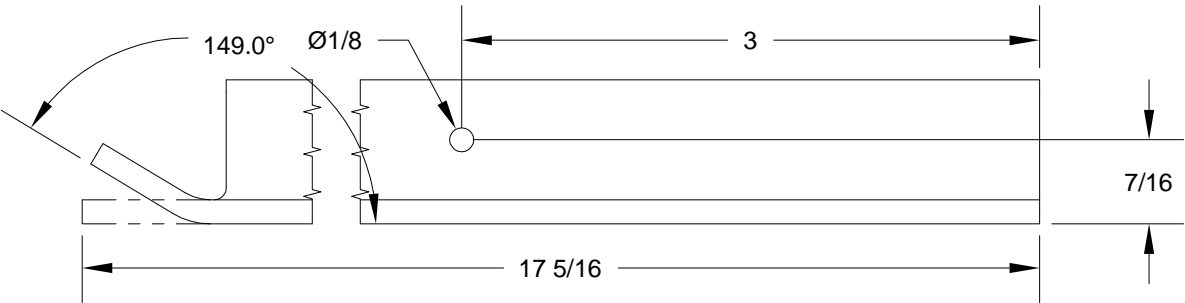

FIGURE 2: FABRICATE ANGLE
Step 2: Fabricate the F-1044B Angle from AA6-125 x 3/4 x 3/4 as shown in Figure 2.